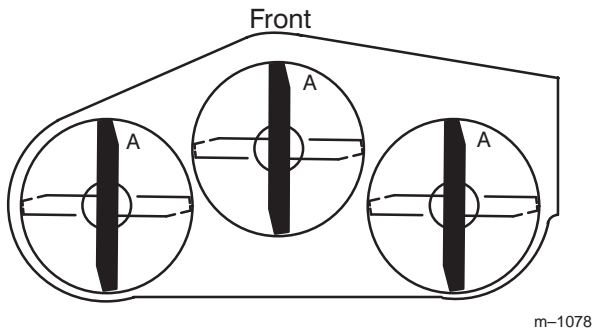
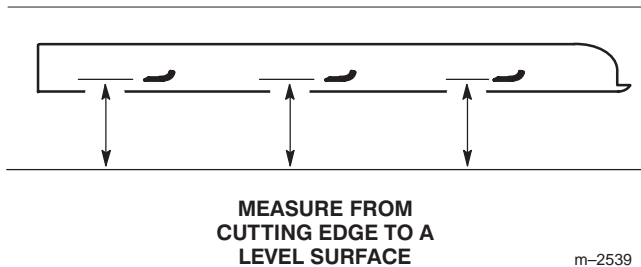

Figure 42
Figure 43
- Rotate the blades until the ends face forward and backward (Fig. 42). Measure from a level surface to the cutting edge, position A, of the blades (Fig. 43). Note this dimension.